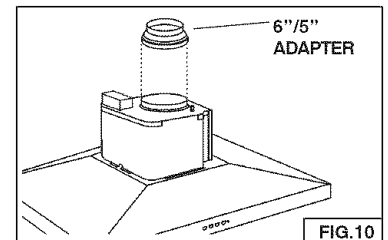

FIG.10
4. Mount the 6"/5" adapter above hood. Fig. 10.